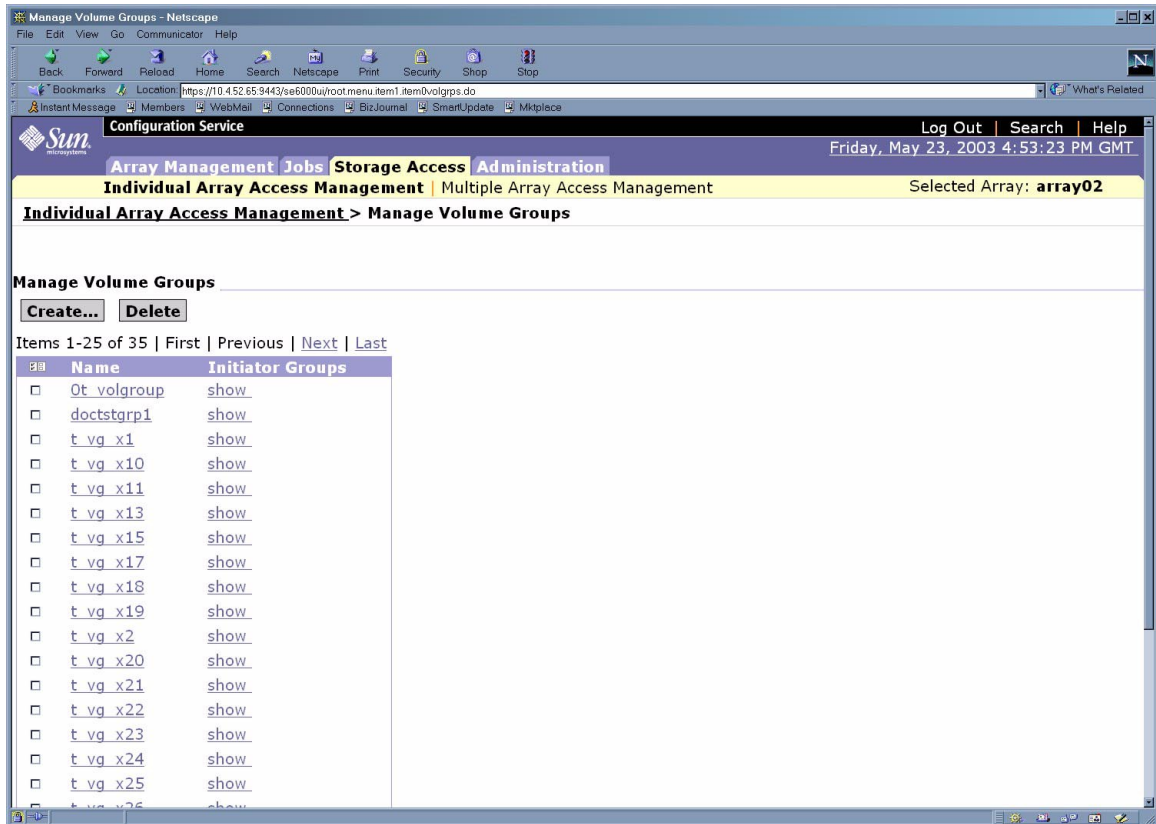

FIGURE 6-38 Storage Access—Manage Volume Group Page
6. Click on a radio button next to an array and click on **Manage Volume Groups** and the **Manage Volume Groups** page is displayed as shown in FIGURE 6-38.